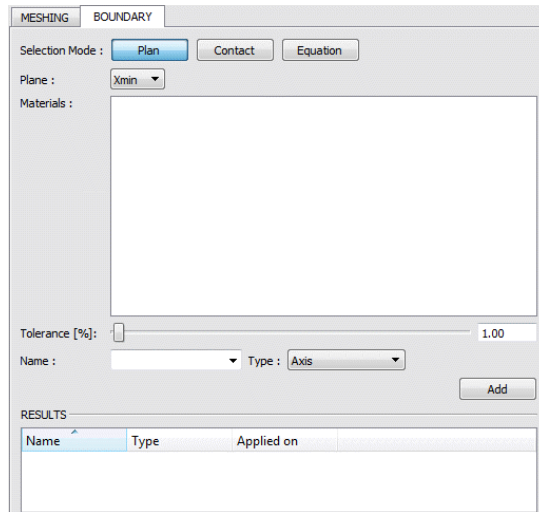

Figure 22.3: The Boundary Tab
- **A Boundary tab:** This is where boundary conditions are assigned to the mesh. Various tools let you select the elements (triangles) which are part of a given boundary condition group (given name and ID). This tab is available only if the selected file format allows exporting boundary conditions (Figure 22.3).